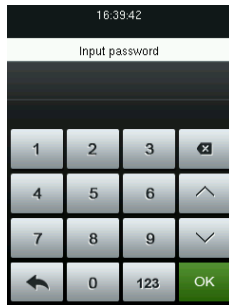

figure 5
3. Press  icon to enter password input interface, shown as **figure 5**.